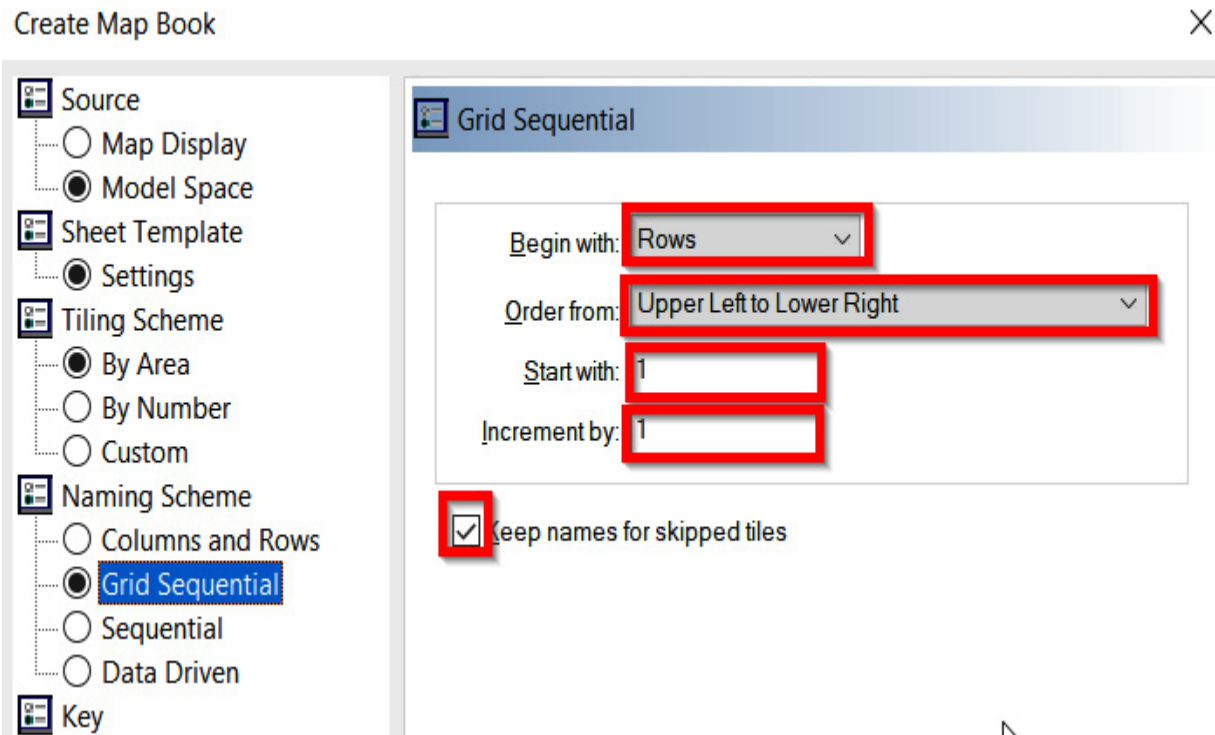

Figure 14.9 – Map Book > Naming Scheme > Grid Sequential Criteria
- **Naming Scheme: Grid Sequential** (as shown in *Figure 14.9*):